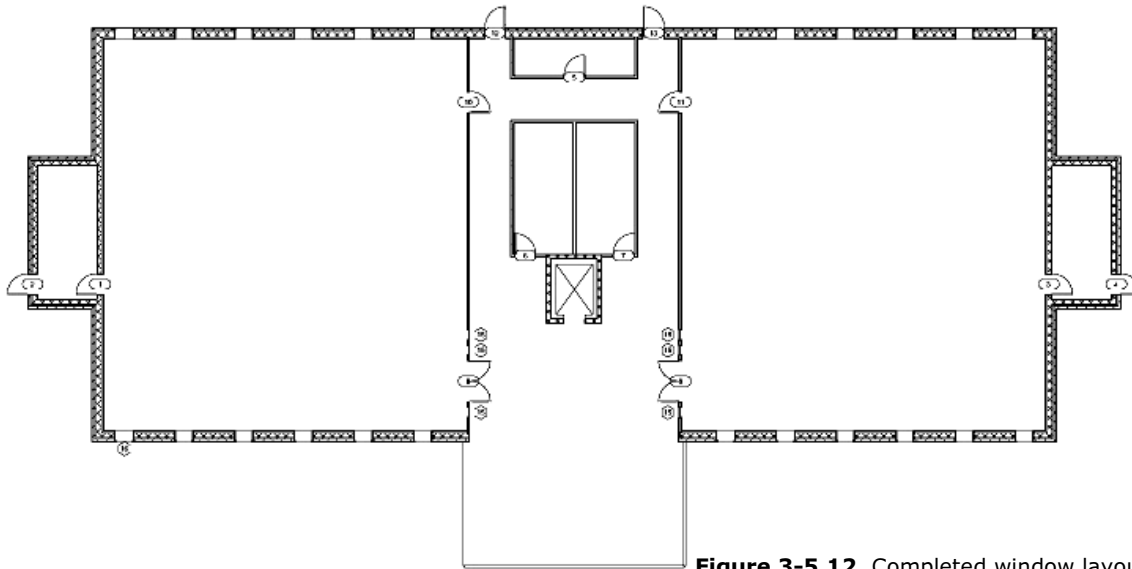

Figure 3-5.12 Completed window layout
22. Set the windows up on the three remaining walls of the first floor (Figure 3-5.12). Consider the following: